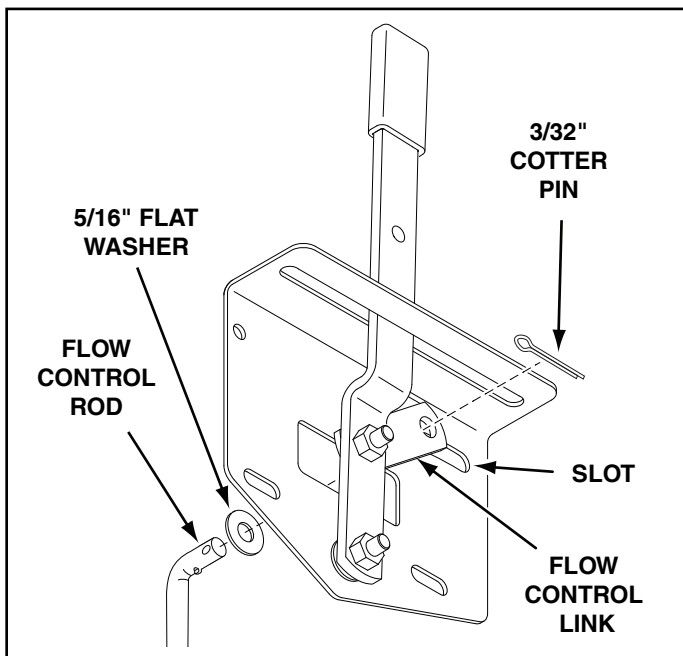

FIGURE 9
17. Place a 5/16" flat washer onto the end of the flow control rod. Insert the end of the rod through the slot in the flow control mounting bracket and through the hole in the flow control link. Secure with a 3/32" x 3/4" cotter pin. See figure 9.